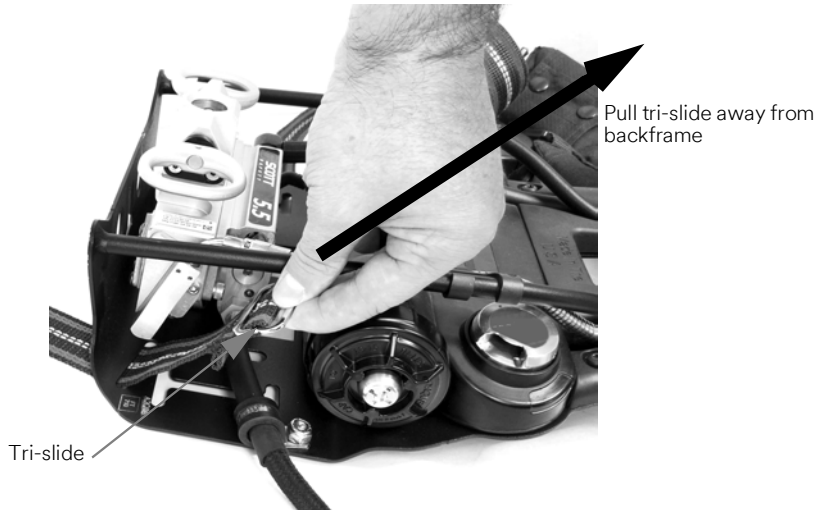

Figure 2-15 Removing the waist-to-shoulder straps from the backframe
- b Pull the tri-slide away from the backframe until the opposite end of the waist-to-shoulder strap can be fed through the backframe slot. See Figure 2-15.